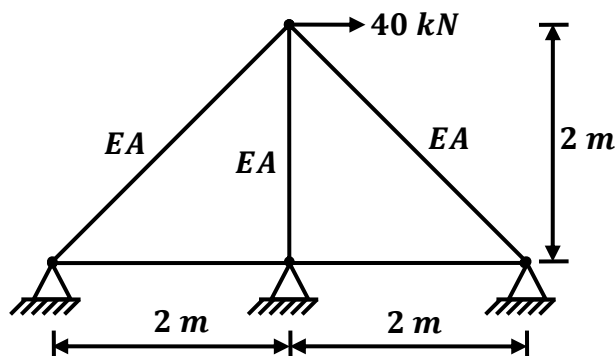

Fig. 3
3. Analyze plane truss shown in fig.3 by Stiffness Matrix Method system approach.